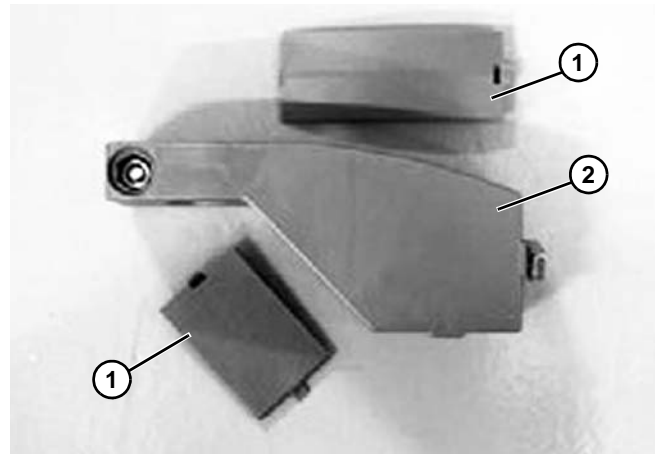

Figure 91
1. Open the upper and lower caps (Figure 91, item 1) on FGRB - 40 guide rail bracket (Figure 91, item 2), and install T-bolt.